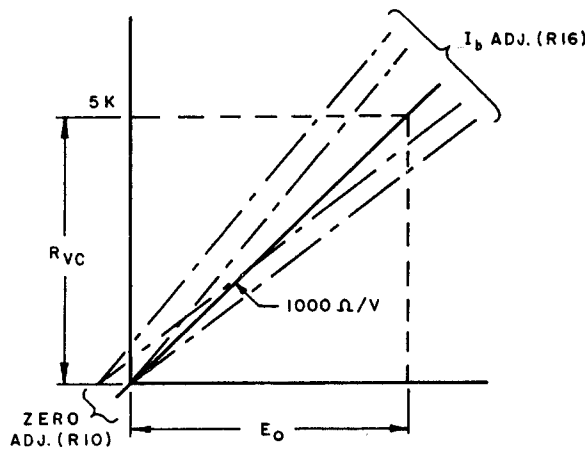

FIG. 3-6 ESTABLISHING PROGRAMMING LINEARITY.
- e) Open S1 and check the 5 volt reading. Repeat "C" and "D" as necessary to achieve the desired accuracy. FIG. 3-6 below shows graphically how the programming ratio can be precision adjusted.